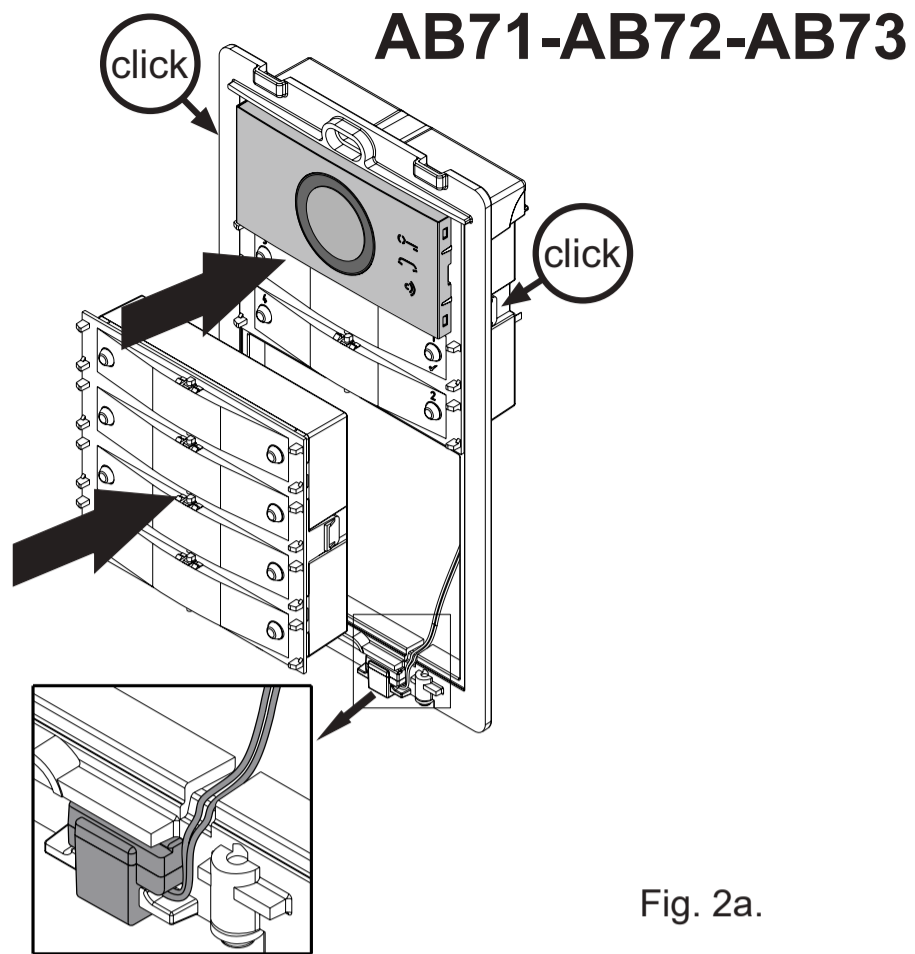

Fig. 2a.
- Insert the modules into the frame in sequence (the AB3G module must be on top), paying attention to correctly position the microphone of the AB3G module in the slot located at the bottom of the frame (figure 2a).